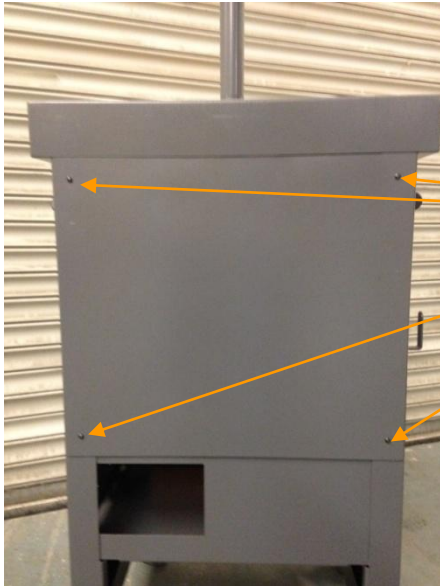

Fig. 1
1. Remove the back panel as shown in Fig. 1 by unscrewing the 4 earth nib Philips screws.